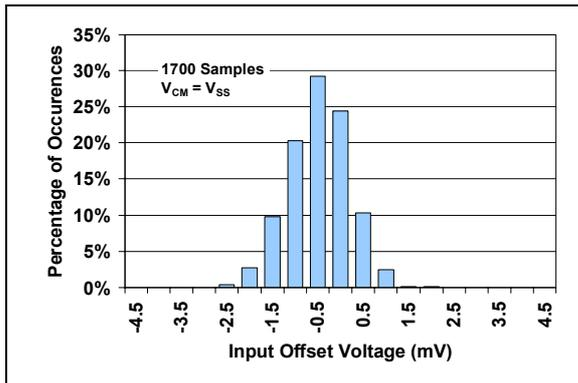

**FIGURE 1-1:** AC and DC Test Circuit for Most Specifications.
**Electrical Characteristics:** Unless otherwise indicated,  $V_{DD} = +1.4V$  to  $+6.0V$ ,  $V_{SS} = GND$ ,  $T_A = +25^{\circ}C$ ,  $V_{CM} = V_{DD}/2$ ,  $V_{OUT} \approx V_{DD}/2$ ,  $V_L = V_{DD}/2$  and  $R_L = 1$  M $\Omega$  to  $V_L$ . (Refer to Figure 1-1).
**Electrical Characteristics:** Unless otherwise indicated,  $T_A = +25^\circ\text{C}$ ,  $V_{DD} = +1.4\text{V}$  to  $+6.0\text{V}$ ,  $V_{SS} = \text{GND}$ ,  $V_{CM} = V_{DD}/2$ ,  $V_{OUT} \approx V_{DD}/2$ ,  $V_L = V_{DD}/2$ ,  $R_L = 1\text{ M}\Omega$  to  $V_L$  and  $C_L = 60\text{ pF}$ . (Refer to Figure 1-1).
The circuit used for most DC and AC tests is shown in Figure 1-1. This circuit can independently set  $V_{CM}$  and  $V_{OUT}$  (see Equation 1-1). Note that  $V_{CM}$  is not the circuit's Common Mode voltage ( $(V_P + V_M)/2$ ), and that  $V_{OST}$  includes  $V_{OS}$  plus the effects (on the input offset error,  $V_{OST}$ ) of the temperature, CMRR, PSRR and  $A_{OL}$ .